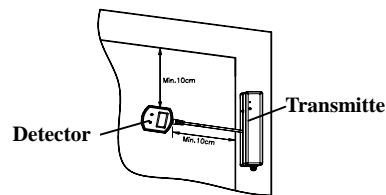

Fig. 3
3. Clean and dry the surface of the window, then remove the paper from the double-stick tape on the back of detector, and attach the detector on the window glass. Keep it at least 10cm away from the window frame to get better sensitivity. Refer to Fig. 3.